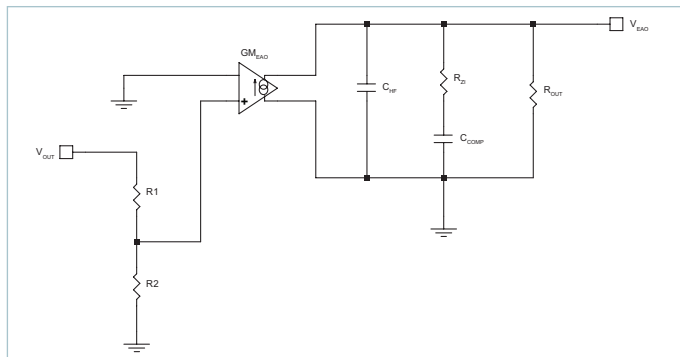
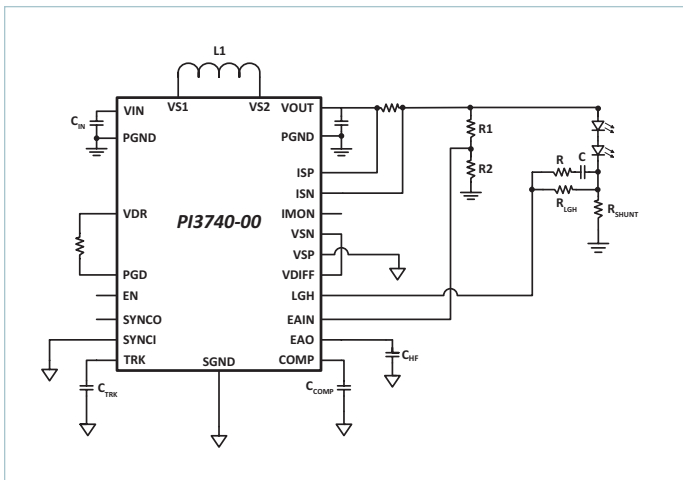

Figure 58 — PI3740-00 Error Amplifier Model
Figure 59 — Lighting Configuration Using CC Mode
When the amplifier is configured as shown in Figure 58, it forms a Type II amplifier configuration with poles and zeros determined by:
Figure 58 shows a small signal model of the modulator gain when using the application circuit shown in Figure 59 with two high current LED's in series. RLED is the series combination of the AC resistance of each LED. RSHUNT is used to sense the current through the LED string. Equation (16) defines the pole of transfer function.
When regulating in CC mode, it will be necessary to add a compensating zero to avoid loss of phase margin caused by the integrator stage of the LGH amplifier. A simple approach is to add a series R–C in parallel with RLGHT as shown in the lighting application diagram in Figure 59. The capacitor will be chosen to work with RLGHT to add a zero approximately 1.2kHz before the zero provided by the GMLGHT transfer function (the transconductance stage of the LGH amplifier). The external added resistor will form a high frequency pole to roll the gain off at higher frequency. Note that it is very important to understand the AC resistance of the LED's that are being used. Please consult the LED manufacturer for details. For a series string, you should add the individual LED resistances and combine them into one lumped value to simplify the analysis.